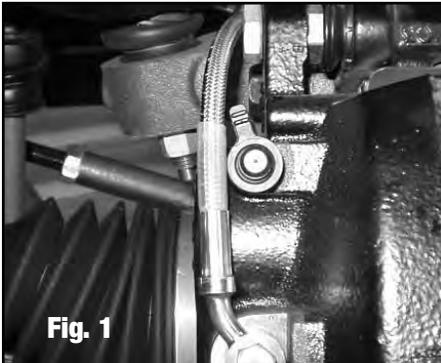

Fig. 1
2. Install Russell front hoses, routing similar to factory hose. Orient banjo offset inboard, leaving enough clearance around bleed screw for operation **(See Figure 1)**.